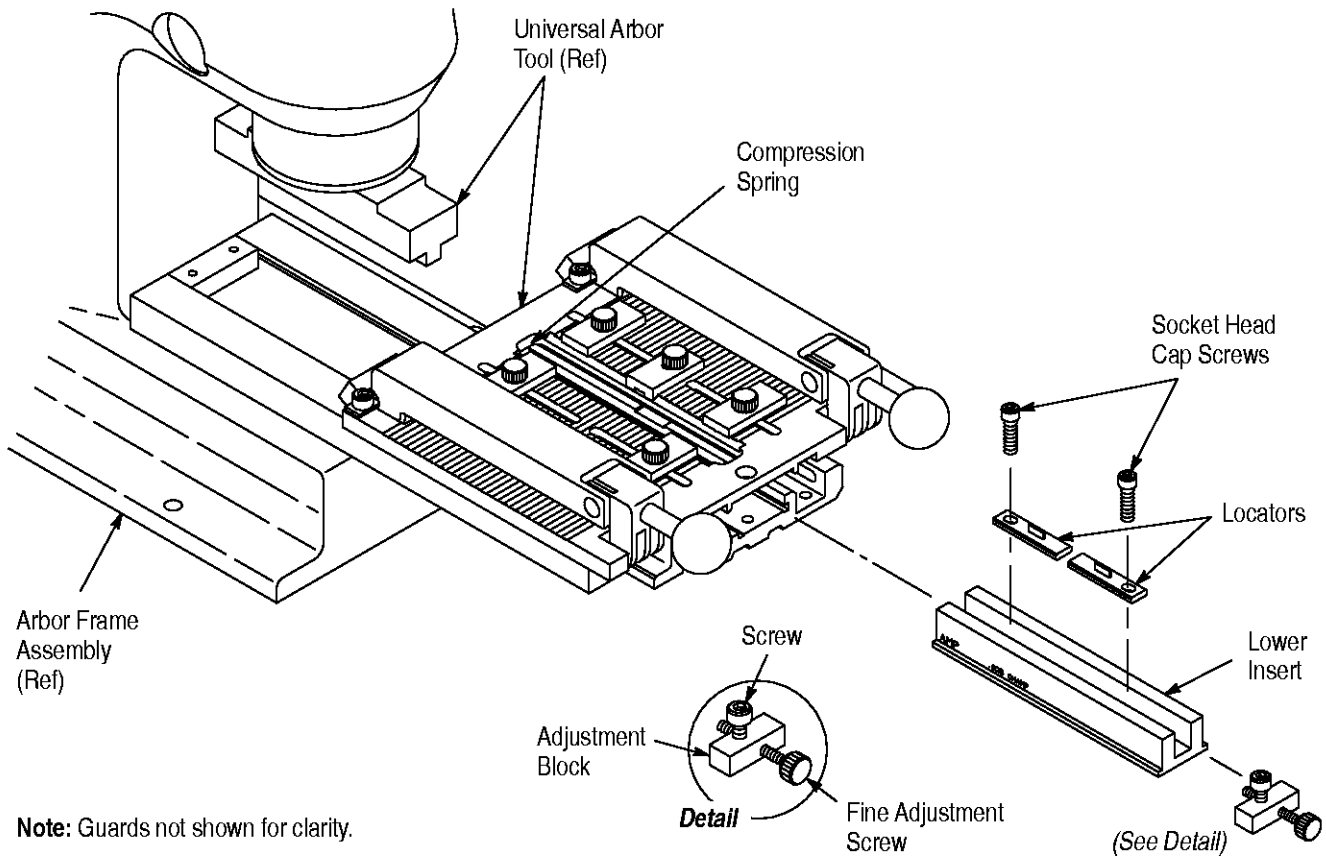

Figure 2
1. Secure the locators onto the lower insert using the socket head cap screws. Tighten the screws just enough to hold the locators in place. Refer to Figure 2.
4. Remove the screw that secures the adjustment block to the universal arbor tool, then remove the adjustment block. Slide the lower insert onto the base assembly until it is against the compression spring. See Figure 2.
5. Re-assemble the adjustment block. *Make sure* to orient the block so that the fine adjustment screw is closest to the right side and bottom side of the block. See detail in Figure 2.